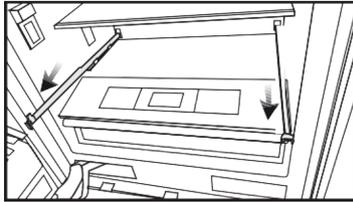

Figure 1
- Pull the sliding rails out completely (see *Figure 1*).